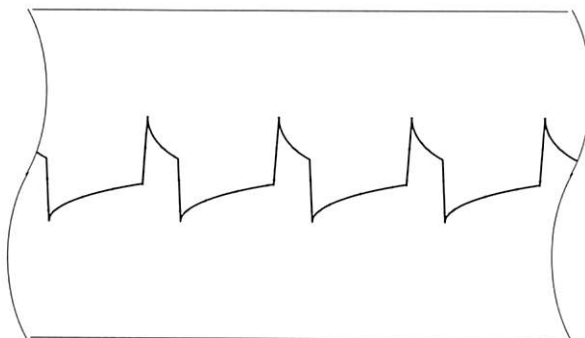

Figure 6-1 Calibration signal at monitor frequency response
- 14** Press RECORD. Recorder should run and trace should appear within one second. Press rear panel CAL button several times. Calibration signal should appear on scope and be recorded on ECG paper approximately eight seconds later. Signal recorded should match Figure 6-1 when monitor frequency response is selected on SETUP menu.